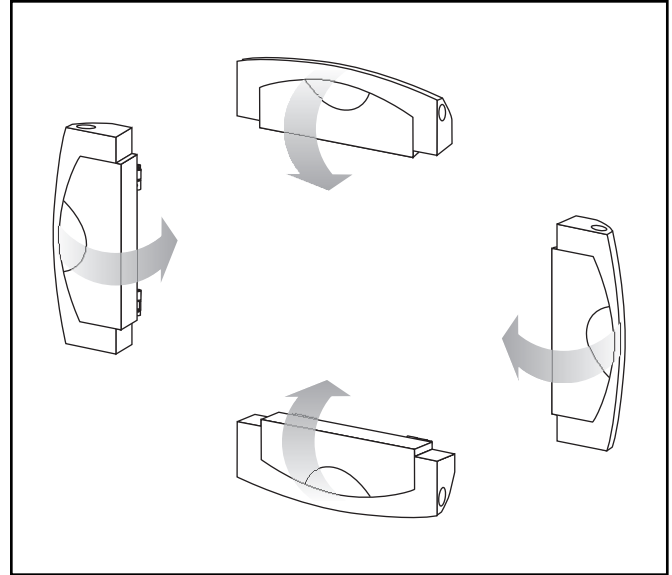

Figure 24. Rotate the Fresco into position and tighten the cap nuts.
- 12 Rotate the Fresco to point at the listening position and tighten the cap nuts (see figure 24).